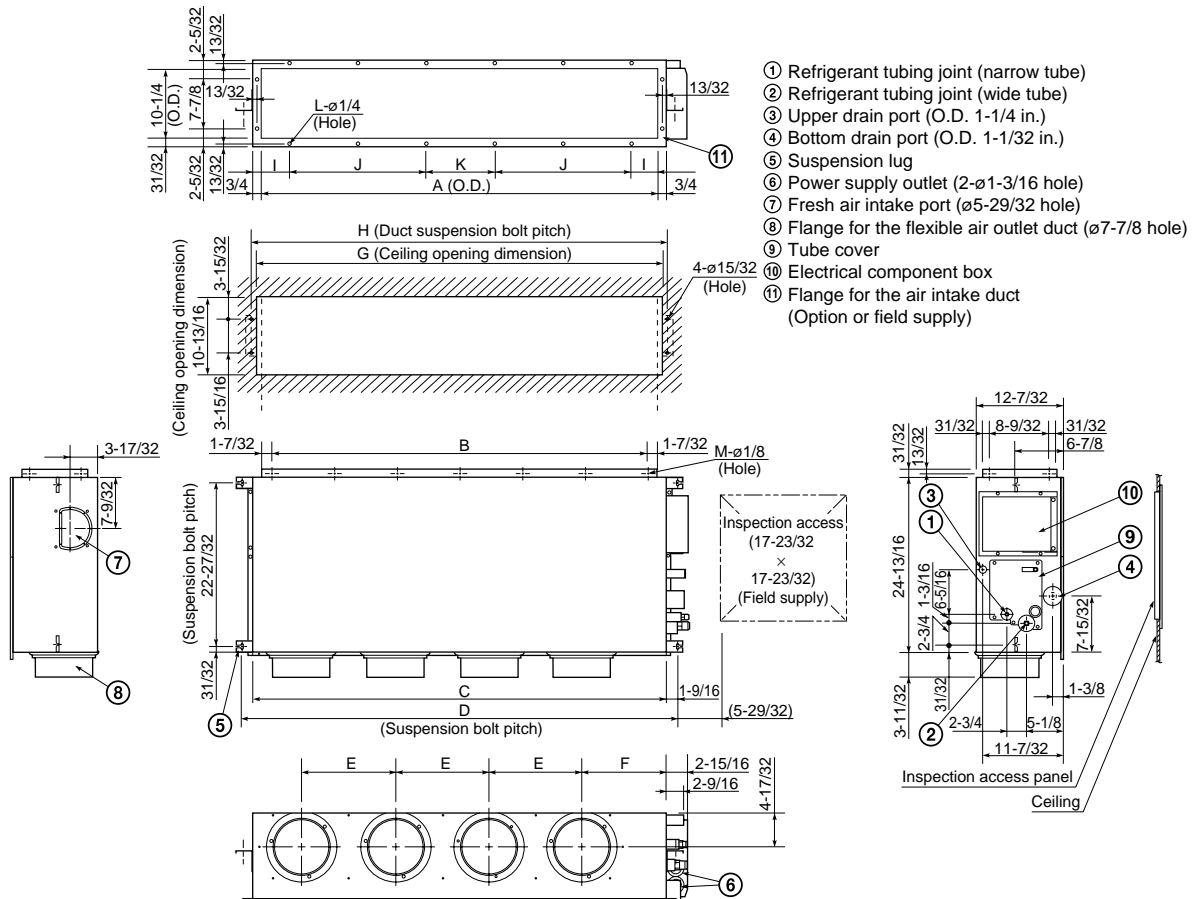

Fig. 3-73
- Fig. 3-73 and Table 3-4 show the detailed dimensions of the indoor unit.
- (1) When placing the unit inside the ceiling, determine the pitch of the suspension bolts referring to the dimensional data on the previous page. (Fig. 3-73)